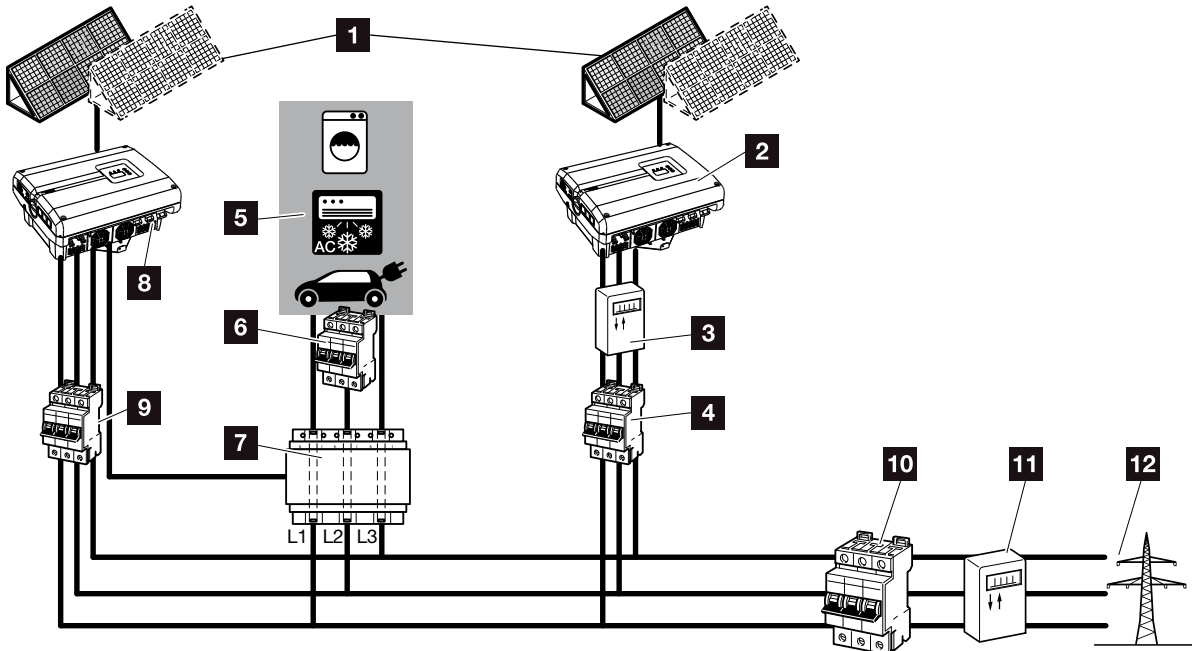

Fig. 81: Connection of several inverters - current sensor position mode 1 for building consumption (possible as of PIKO 4.2)
**Fig. 81** and connect them properly.